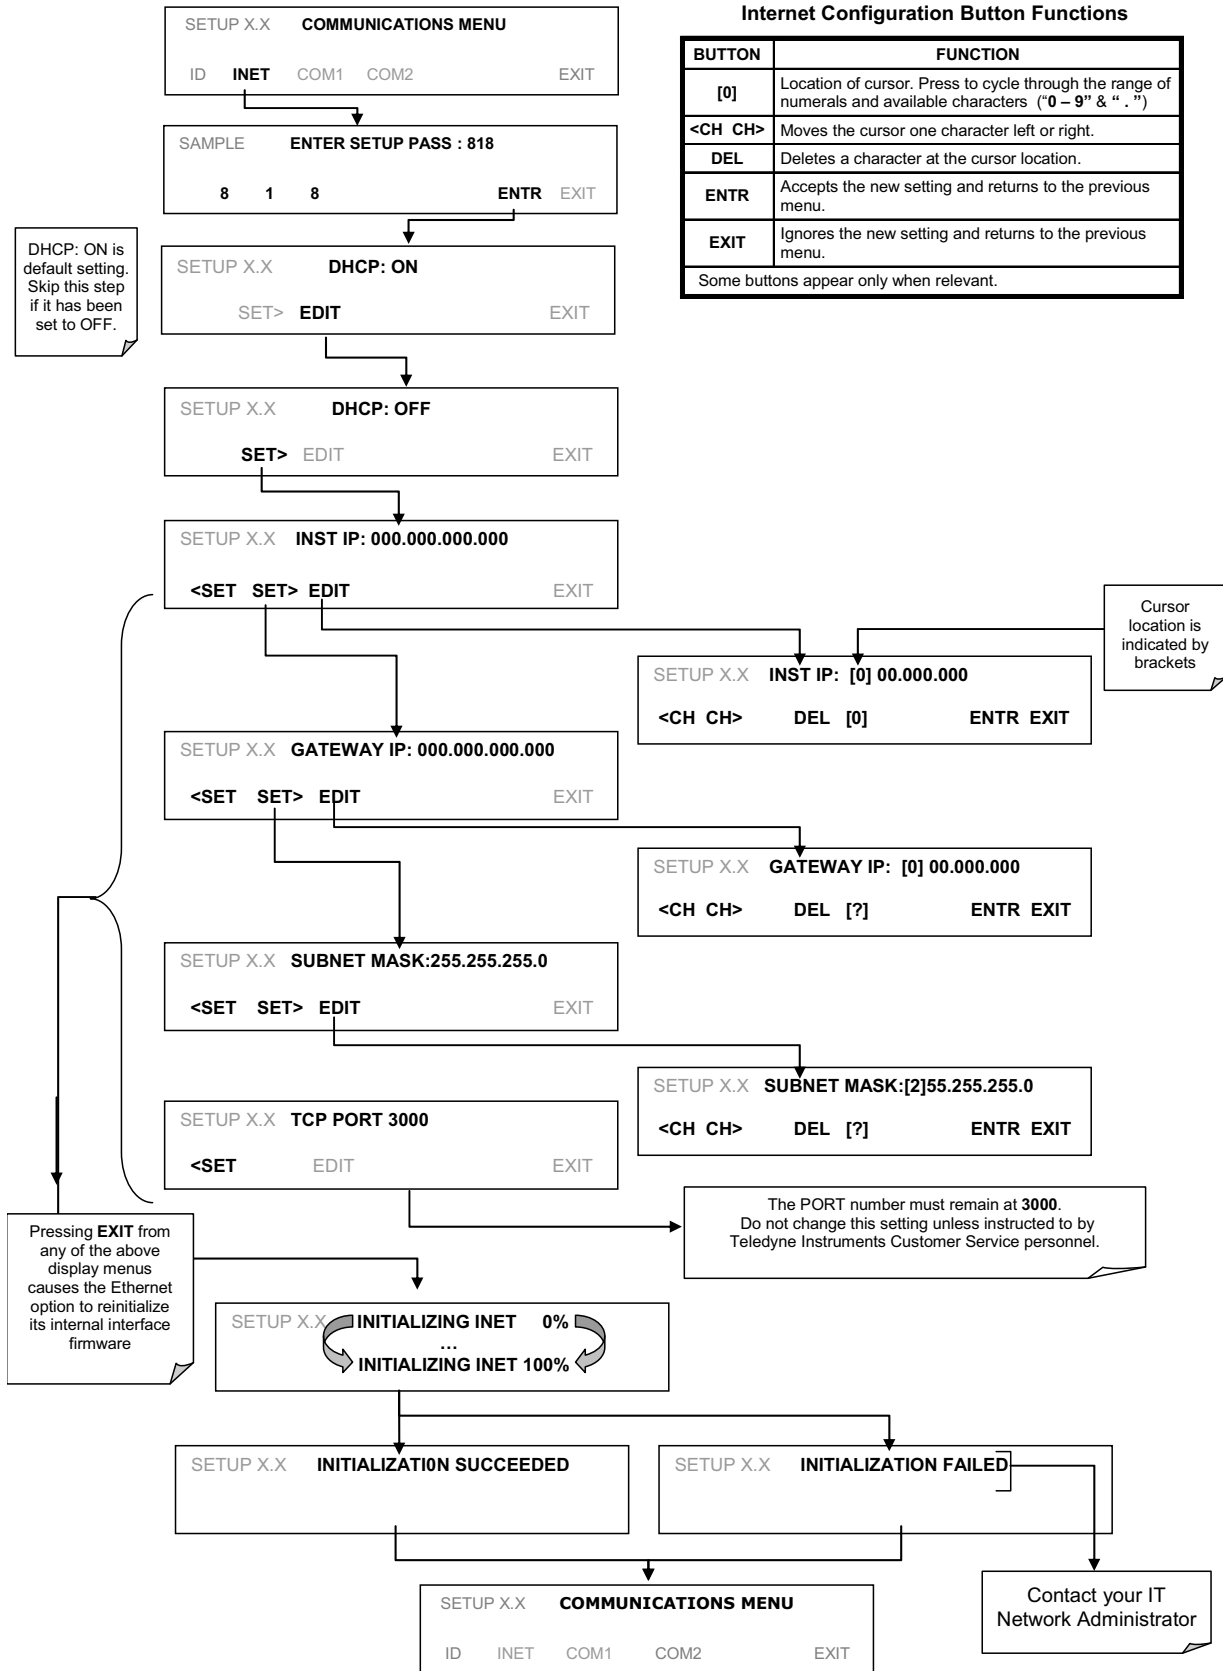

Figure 6-4. COMM - LAN /Internet Manual Configuration
3. Enter the INET menu shown in Figure 6-4, turning DHCP mode to OFF and editing the Instrument and Gateway IP addresses and Subnet Mask to the desired settings (default settings shown in Table 6-3).